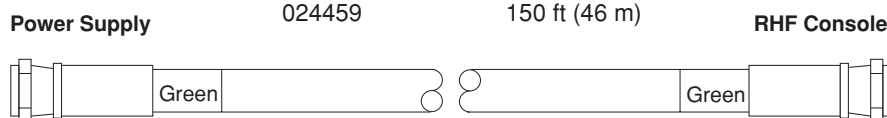

Figure 3-12 Cooling Supply Hose/Power Lead (-)
③ Cooling Water Supply Hose /Power Lead (-) (Green) (Figure 3-12)